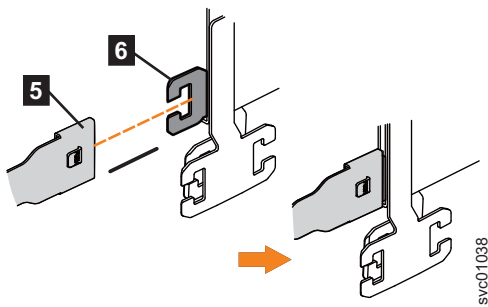

Figure 56. Attach the support rail connector of the upper CMA to the right support rail
4. Attach the support rail connector on the upper CMA assembly (**5**) to the connector base on the right support rail (**6**), as shown in Figure 56.